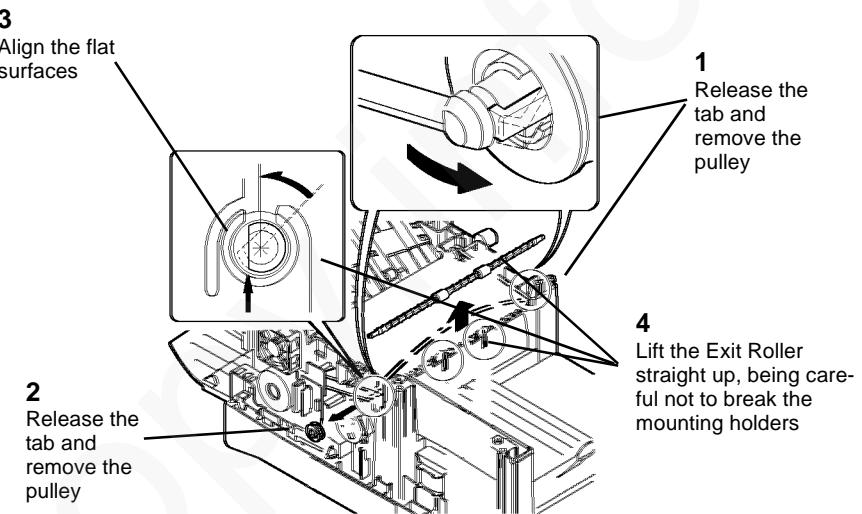

Figure 2 Removing the Exit Roller
3. (Figure 2): Remove the Exit Roller.